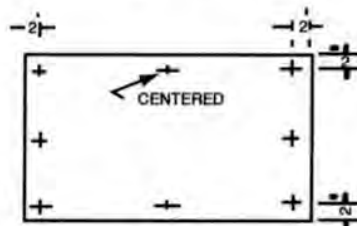

FIG. 2
9. When using the HY-C Stove Board/Floor Protectors as a wall shield, use HY-C Installation Kit No. ULSK by positioning the boards against the combustible wall to be protected. Hold each board in turn, flat against the wall in its position, and drill 1/4" holes completely through the board and into the wall behind. See hole pattern in Fig. 2.